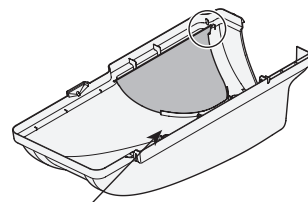

Figure 9
- NOTE:** Make sure to feed the screen under the lip, as in Figure 9.
4. Clip in the other side by flexing the screen and pushing it down into the provided cutout hole. See Figure 9.